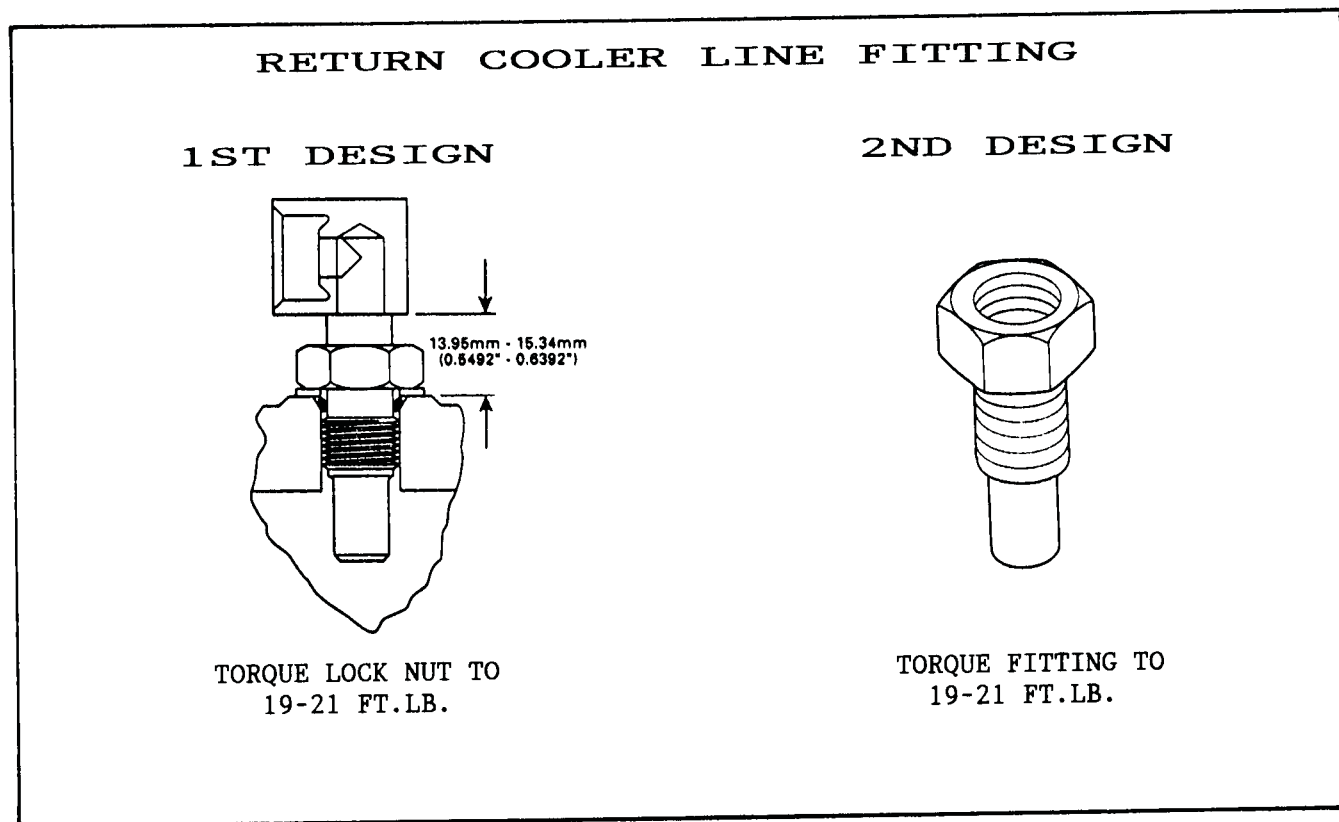

Figure 125
4. There are two different designs of the return cooler line connector. Follow the torque specifications Figure 125.